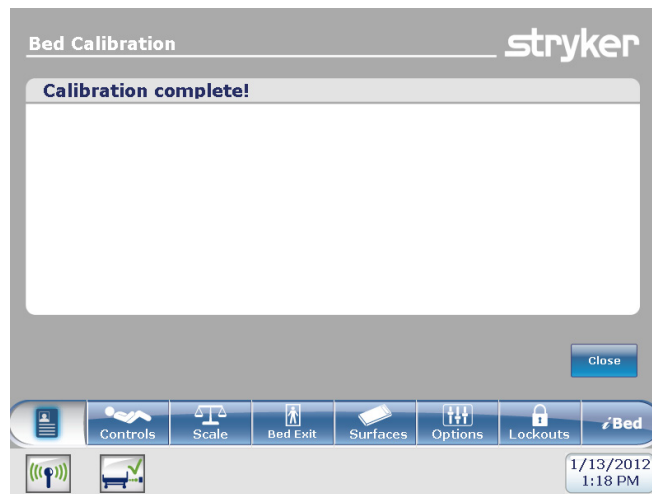

Figure 25: Calibration Complete
29. When the calibration procedure is completed, Figure 25 will be displayed as shown below.